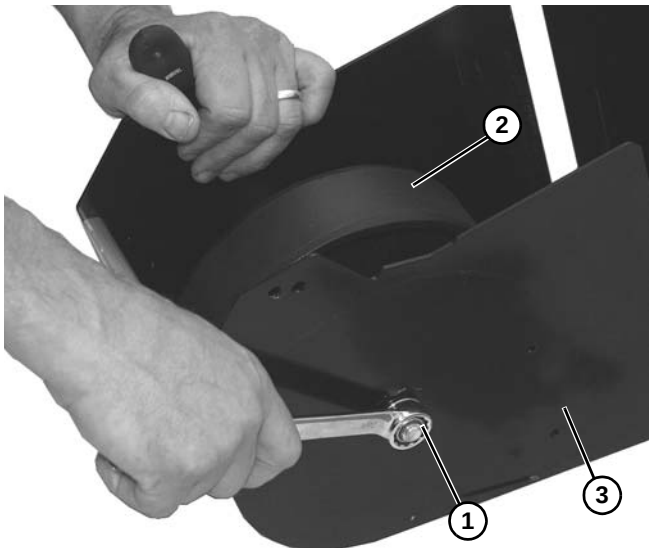

Figure 94
3. Use two wrenches to remove nut (**Figure 94, item 1**) on bolt securing wheel (**Figure 94, item 2**) onto weighted take up assembly housing (**Figure 94, item 3**).